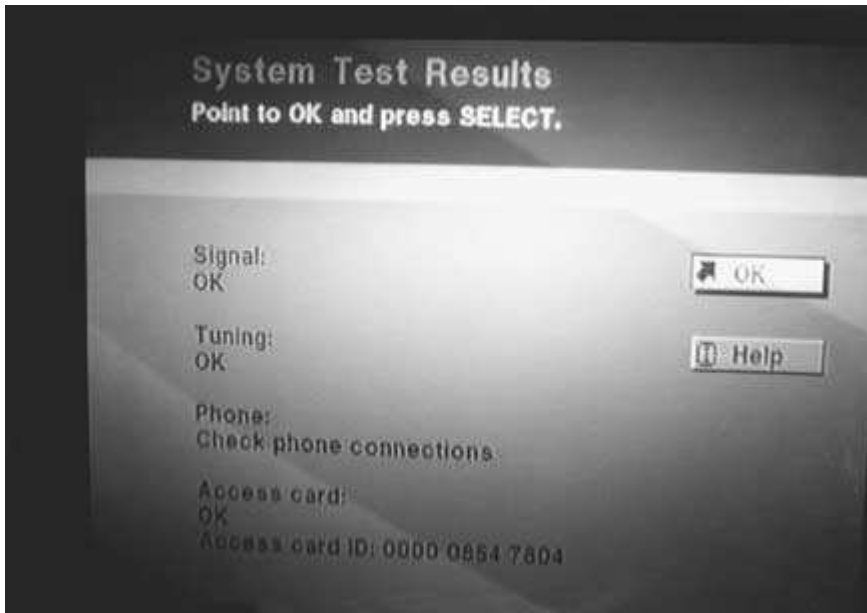

FIGURE 6-11 How the system test results appear on your TV receiver screen.
- *Phone test* The phone test checks for dial tone and performs an internal loopback test. In Fig. 6-11, the system test indicates a phone connection problem. Some checks you can make is to plug a working phone into the phone line plugged into the back of the DBS receiver. If the phone works OK, the receiver modem could be defective. You will need to take it to a repair station for service. If the test phone does not work, check all plug-in connections or replace the phone cable to the unit.